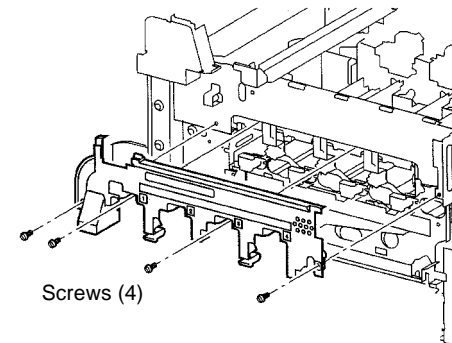

Figure 1 Removing Dispenser Cover
7. Remove Dispenser Cover (Figure 1).
- a. Remove Screws (4).